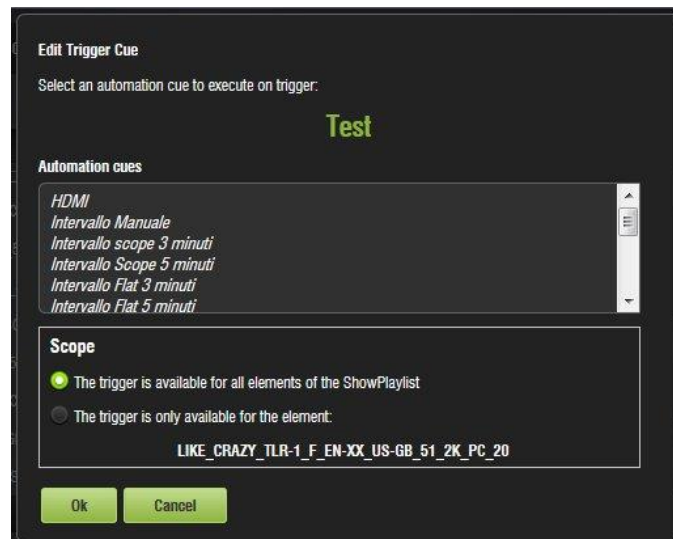

Figure 230: Edit Trigger Cue Window
- The Edit Trigger Cue window will appear (Figure 230).